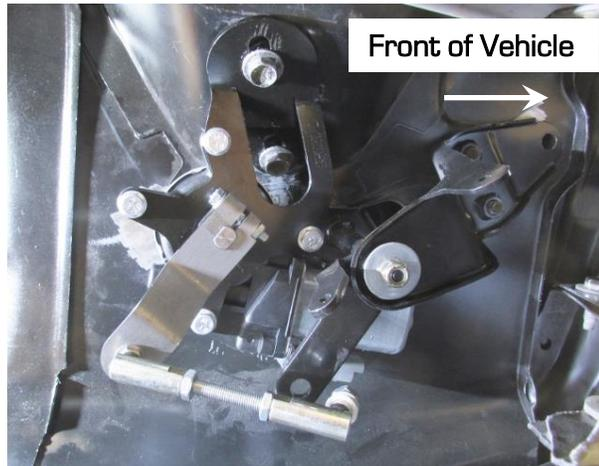

Figure 14 - Install Actuator Assembly (69 Camaro)
- Reinstall the two bolts using a 1/2" wrench and socket to attach the actuator to the vehicle (Figure 14). **NOTE:** Position the actuator/bracket so that the pitman arm can pass underneath the splash guard bracket without contact. If you plan on using the splash guard you will need to trim it as necessary to clear the pitman arm.